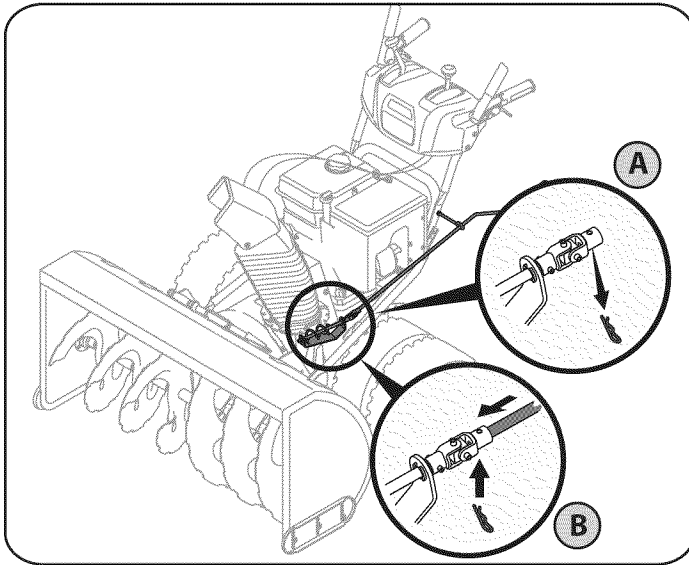

Figure 4
1. Remove the hairpin clip from the spiral control as shown in Figure 4 inset A.
2. Insert the chute directional control rod into the fitting on the spiral control as seen in Figure 4 inset B.
3. Secure with the hairpin clip removed in Step 1. See Figure 4 inset B.